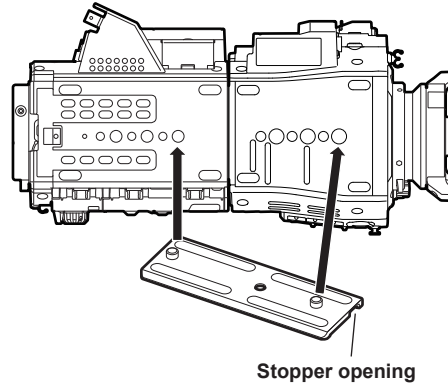

Fig. 2
- 3** Orient the stopper opening of the slide rail toward the front of the camera, and securely mount to the bottom of the camera with the supplied two screws on the screw holes indicated in the figure. (Fig. 2)